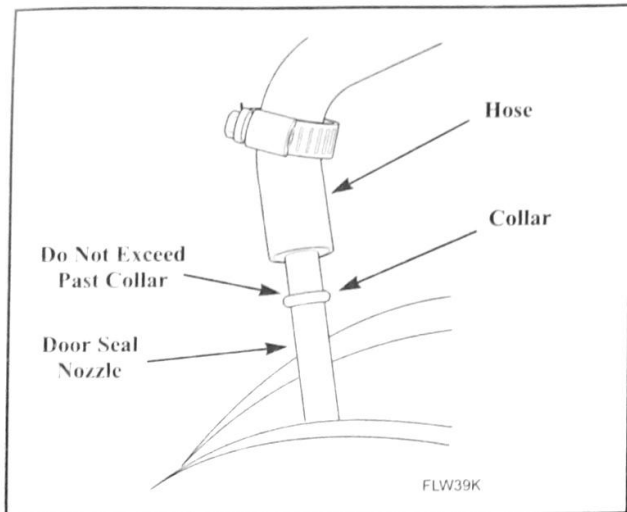

Figure 3
1. Push hose onto new door seal nozzle until it sits on top of collar on nozzle. Hose should butt against nozzle collar. Refer to *Figure 3*.